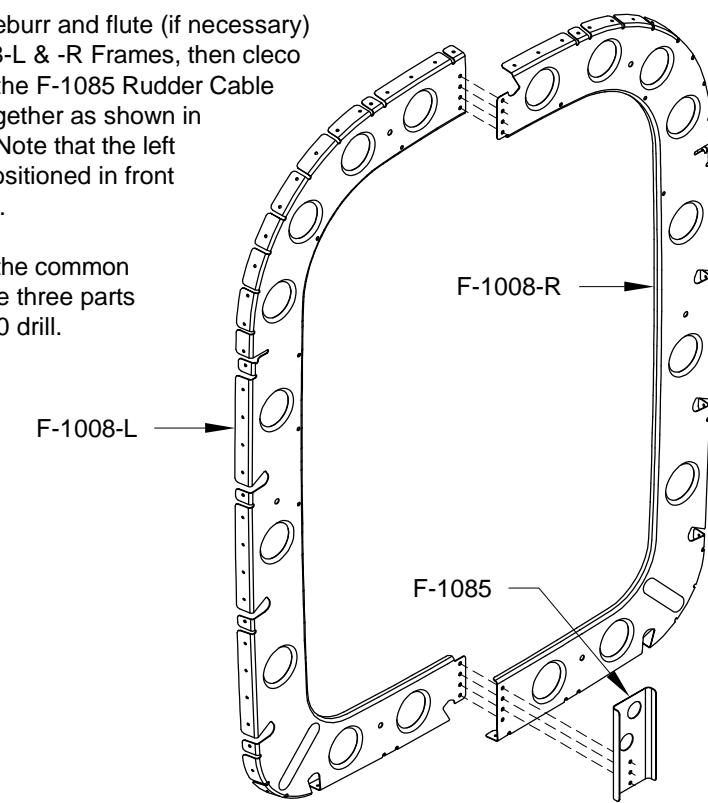

FIGURE 4: ASSEMBLING THE F-1008 FRAME
Step 4: Deburr and flute the F-1007-L & -R Frames, then cleco them together as shown in Figure 4. Again, the left frame is positioned in front of the right.
Step 5: Final-Drill the two $3/16"$ holes, indicated in Figure 4, to $5/8"$ using a Unibit step drill.